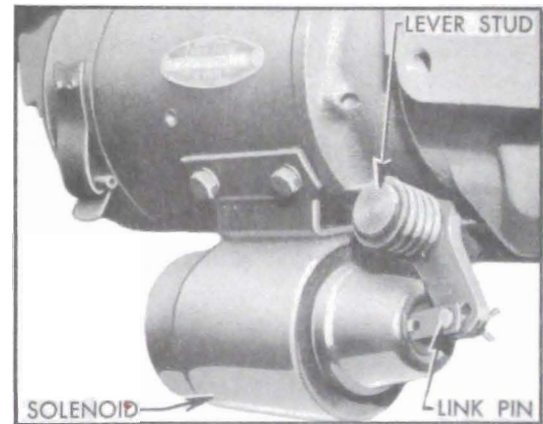

Figure 1-3—Cranking Motor Shift Linkage—Series 50-70
3. *Cranking Motor (Starter).* Apply a few drops of engine oil to the solenoid link pin and to the bearing between shift lever and stud. See figure 1-3. *Do not oil Solenoid plunger.*